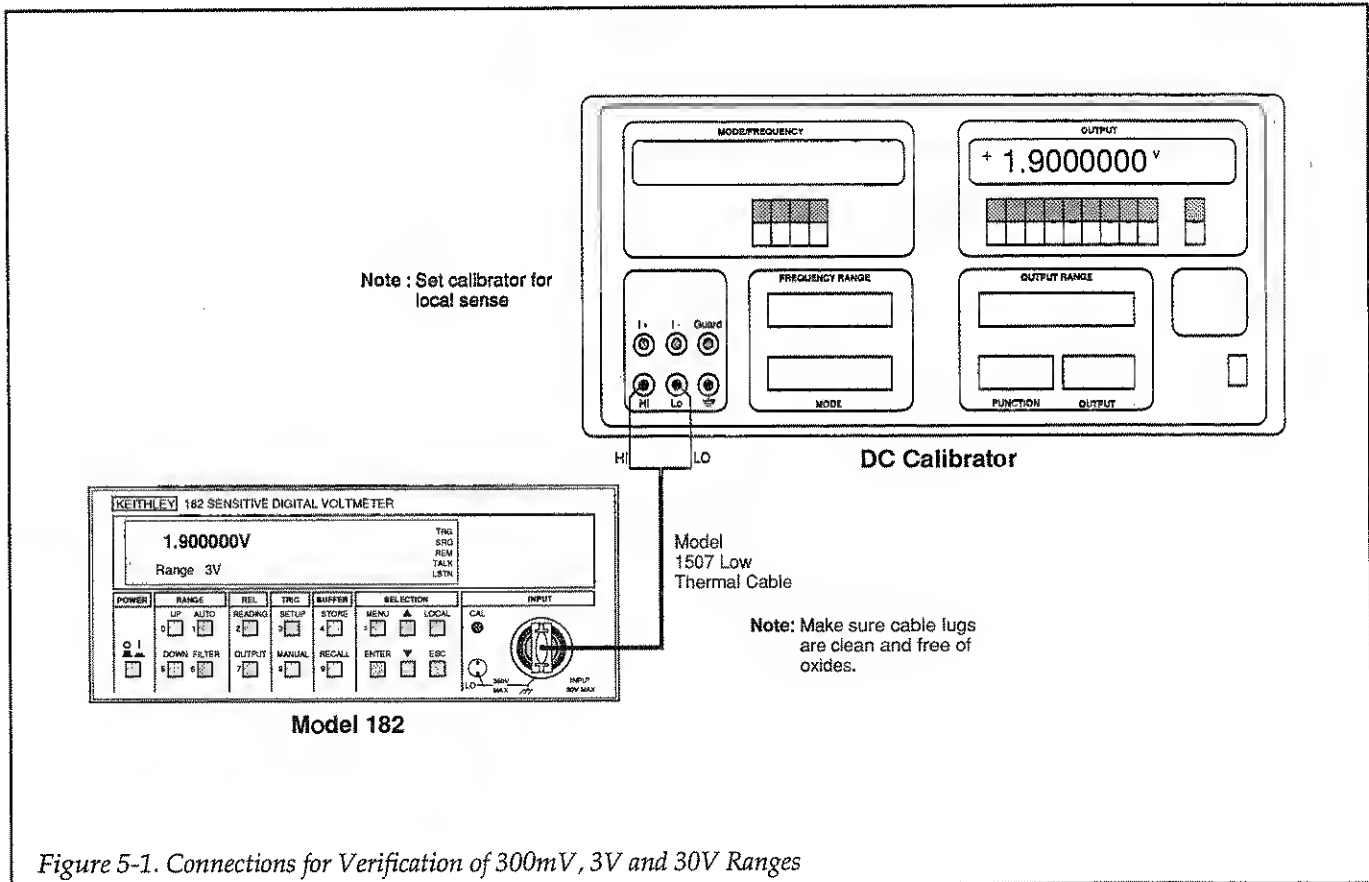

Figure 5-1. Connections for Verification of 300mV, 3V and 30V Ranges
1. With the power off, connect the Model 182 to the DC calibrator as shown in Figure 5-1.
1. Make sure the DC calibrator is still connected to the Model 182 INPUT jack (Figure 5-1), and that the calibrator is still set up for local sensing.